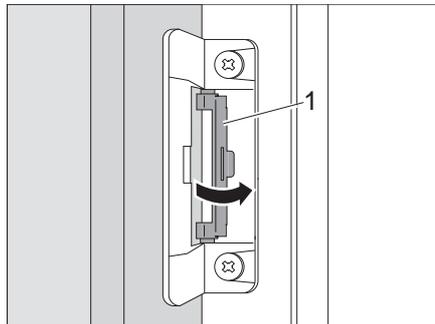

Fig. 151 Turning the latch back to the initial position
- Turn the latch (Fig. 151,1) back to the initial position.